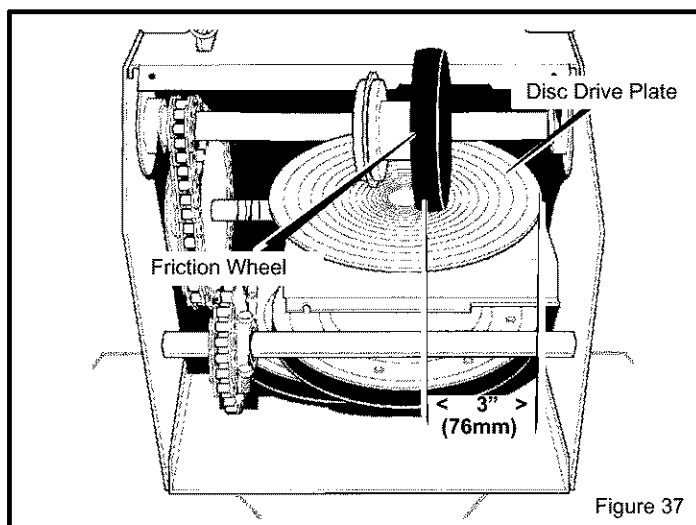

Figure 37
3. Note position of friction wheel on disc drive plate. Proper position from the right outer side of disc drive plate to the centre of friction wheel must be 3" (76 mm) (see Figure 37).